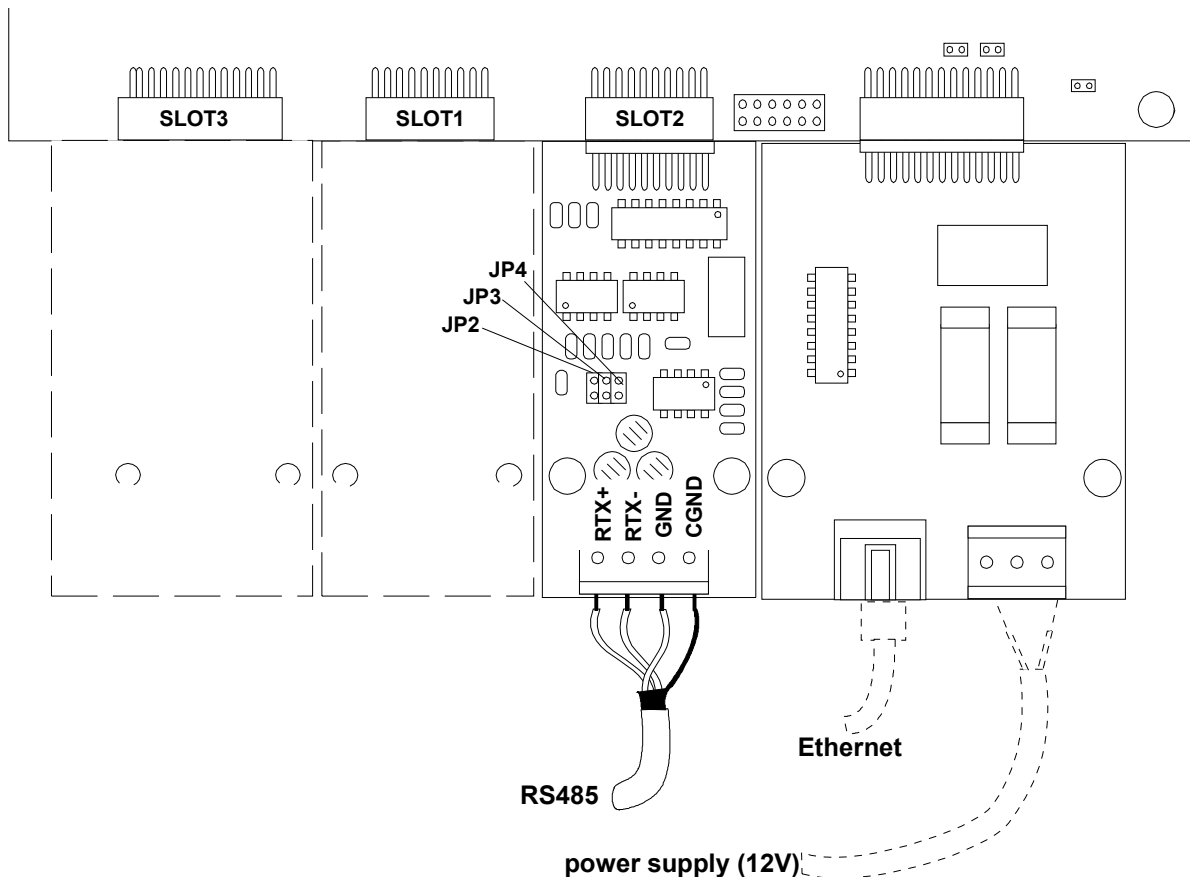

Figure 17. RS485 Board Connection (optional)
- Connect cable RS485 to the front connection board as illustrated in Figure 17.